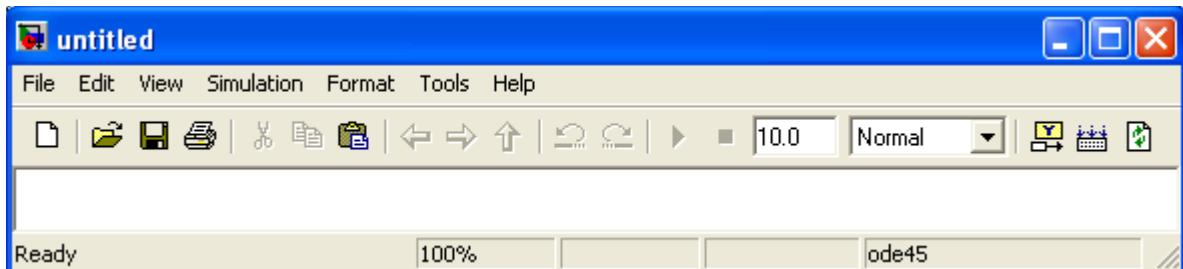
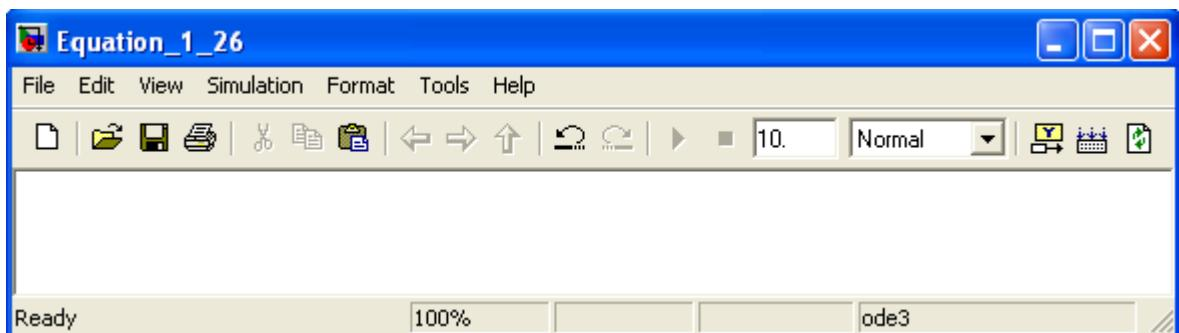

Figure 1.6. The Untitled model window in Simulink.
Figure 1.7. Model window for Equation_1_26.mdl file
1. On the **Simulink Library Browser**, we click on the leftmost icon shown as a blank page on the top title bar. A new model window named **untitled** will appear as shown in Figure 1.6.
The window of Figure 1.6 is the model window where we enter our blocks to form a block diagram. We save this as model file name **Equation_1_26**. This is done from the File drop menu of Figure 1.6 where we choose **Save as** and name the file as **Equation_1_26**. Simulink will add the extension **.mdl**. The new model window will now be shown as **Equation_1_26**, and all saved files will have this appearance. See Figure 1.7.